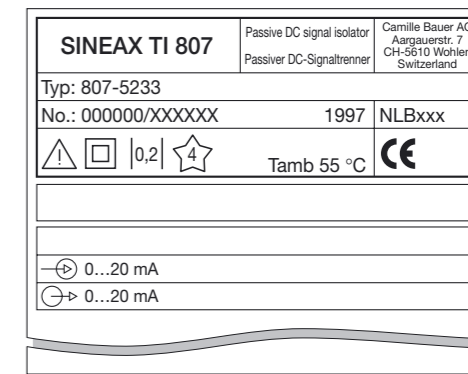

Fig. 7. Example of a nameplate.
- ... the required electrical insulation and transmission data agree with the data on the nameplate of the SINEAX TI 807 (→ input signal and → output signal, see Fig. 7)!